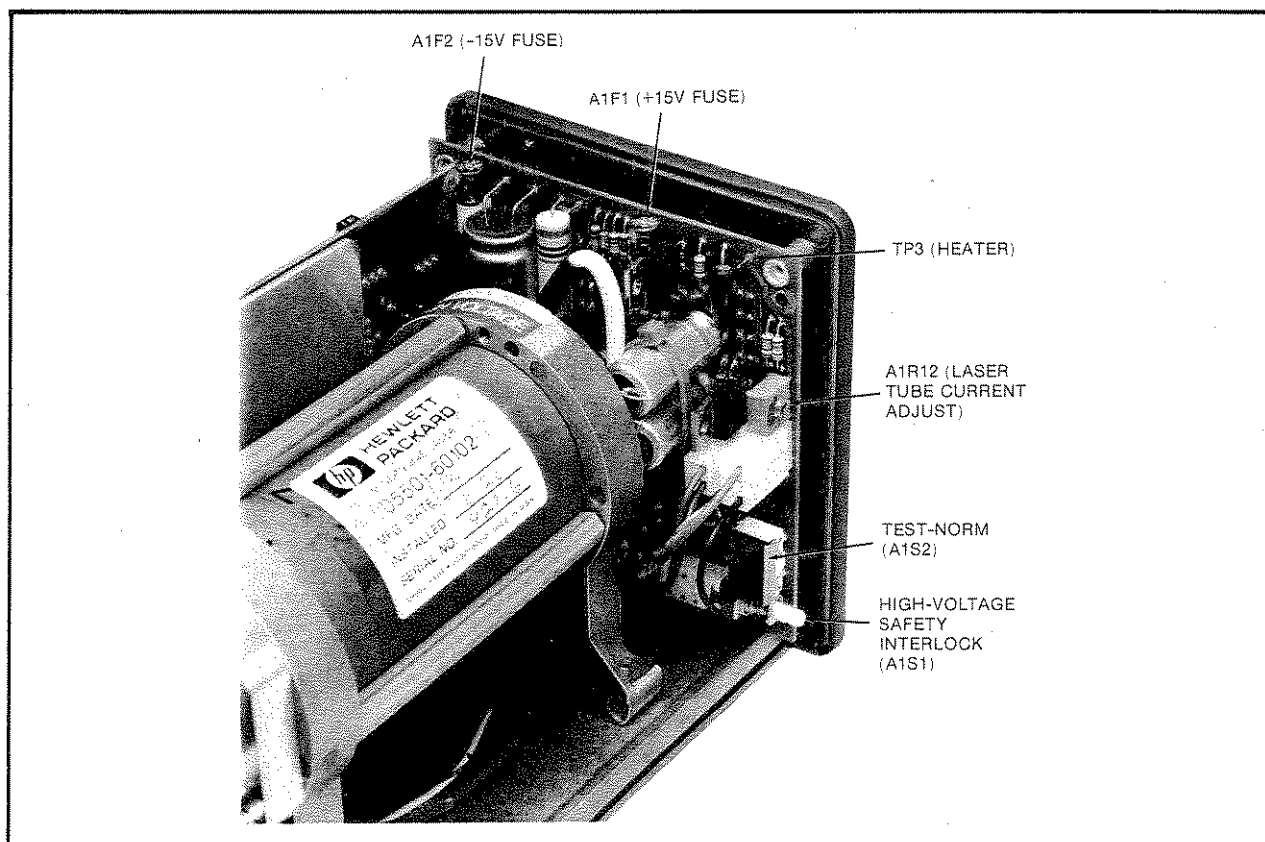

Figure 5-1. A1 Connector Board, TEST-NORM Switch and Adjustment Locations
- b. Check that the TEST-NORM switch (A1S2) located on the A1 Connector Board is set to NORM. See Figure 5-1.
- c. On the A1 Connector Board, set TEST-NORM (A1S2) switch to TEST. See *Figure 5-1*.
- i. Adjust A1R12 (*Figure 5-1*) for 3.5 milliamperes \pm 0.1 milliampere. If the current cannot be adjusted to this value, see Laser High Voltage Troubleshooting in Section VIII. If the laser power output (as measured in paragraph 4-9) is not greater than 120 microwatts (at this current level), the laser assembly may require replacement.